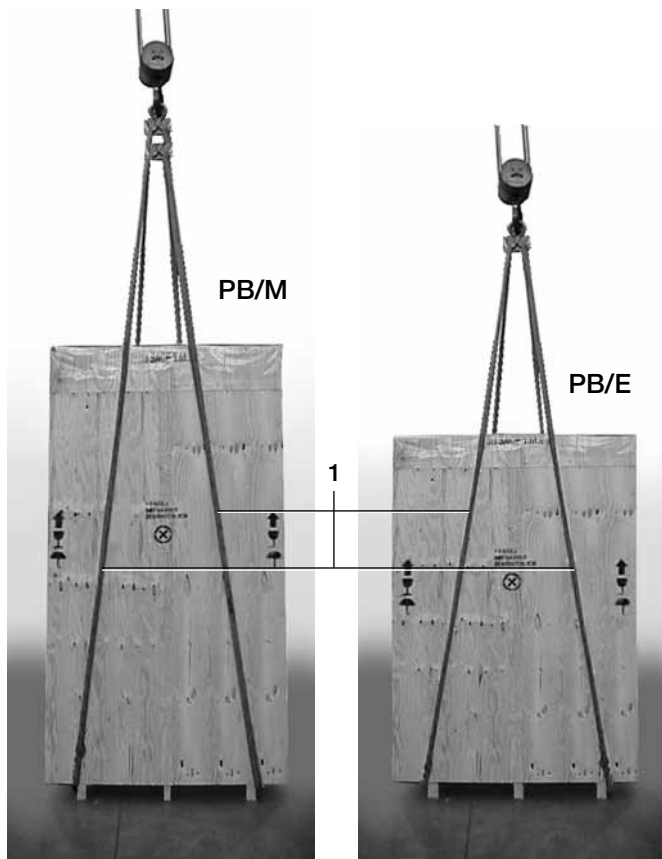

Fig. 2
Lifting by means of a crane must be carried out using the circular slings (1) (fig. 2). The slings must be inserted according to the lifting symbols marked on the crate. Weight and lifting opening angle must be taken into account when choosing the circular slings.